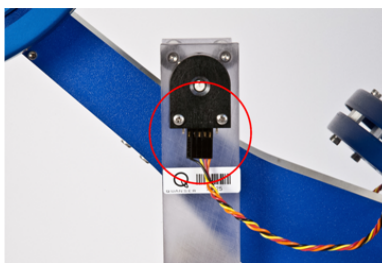

Figure 3.3: Connect the encoder cable
3. Using the four color cable in the pedestal, connect the pitch encoder on the 2 DOF Helicopter body to the pedestal. Make sure that the ground pin on the encoder matches the ground terminal of the connector (shown in Figure 3.3).